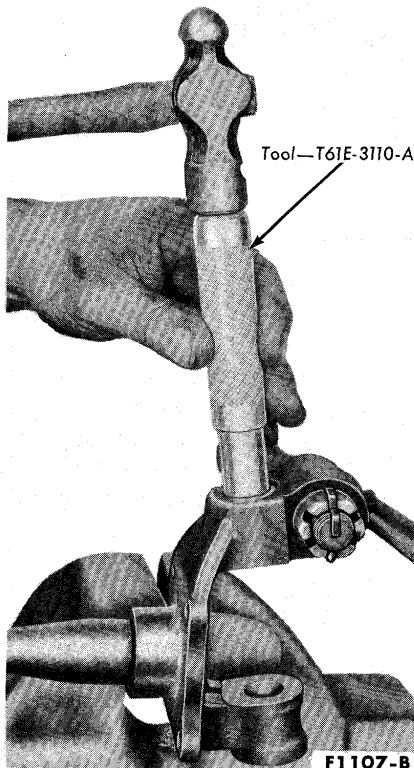

FIG. 8—Removing or Installing Spindle Bushing
2. Position the spindle in a vise and drive the bushing out of the spindle bore as shown in Fig. 8. Reverse the spindle in the vise, and drive out the other bushing.
4. Position a new bushing in the spindle bore. Drive the bushing into the spindle with the tool shown in Fig. 8. Reverse the spindle in the vise, and install the other bushing in the same manner.